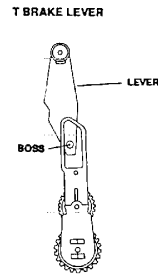

Figure 2b
2. Install the F/R Lever Assembly supplied in the repair kit and secure with retaining washer. Be sure to insert the Boss from the BT Switching Lever into the oblong opening on the F/R Lever Assy (see Figure 2b).